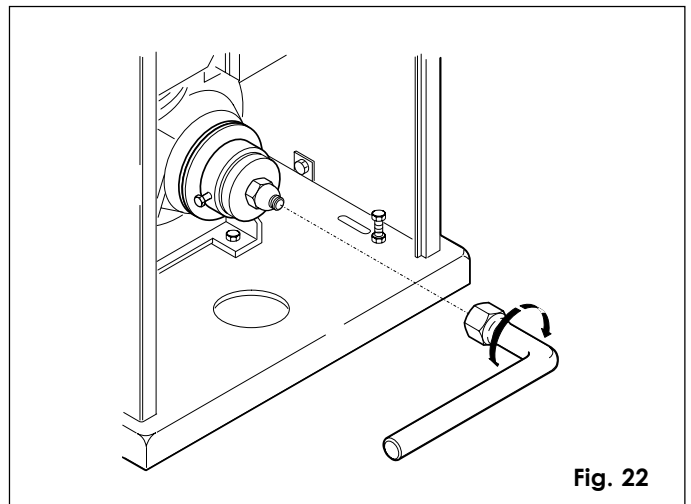

Fig. 22
- Using the key provided, undo the self-locking nut until the clutch is released as shown in fig. 22.
- Turn the self-locking nut shown in fig. 22 anticlockwise until it reaches the mechanical end stop.